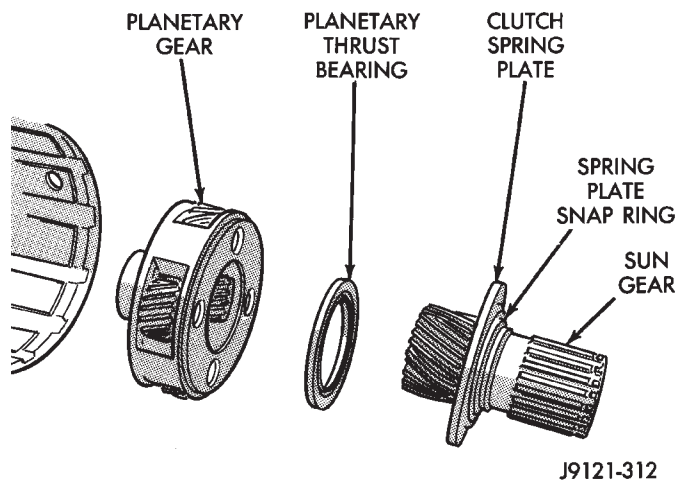

Fig. 24 Removing Sun Gear, Thrust Bearing And Planetary Gear
- (2) Remove sun gear and spring plate. Then remove planetary thrust bearing and planetary gear (Fig. 24).